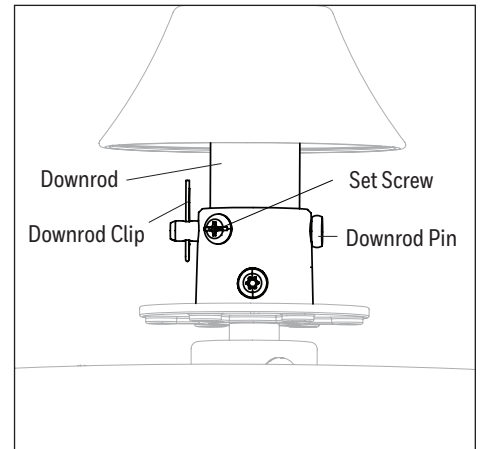

Figure 3.3
3. Slide the downrod into the yoke of the motor assembly. Align holes and install the downrod pin and downrod clip. Secure with the two set screws and slide the yoke cover down until it rests on top of the motor assembly (Figure 3.3).